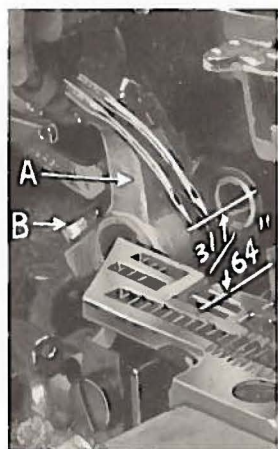

Fig. 3
With throat plate assembled in position, needles should center in the front end of needle slots. When needles are at high position, needle points should be set  $31/64$  inch above throat plate (Fig. 3). To align or set the height above the throat plate, move needle driving arm (A, Fig. 3) by loosening clamp screw (B). Remove throat plate, after needle has been set properly and clamp screw (B) has been tightened.